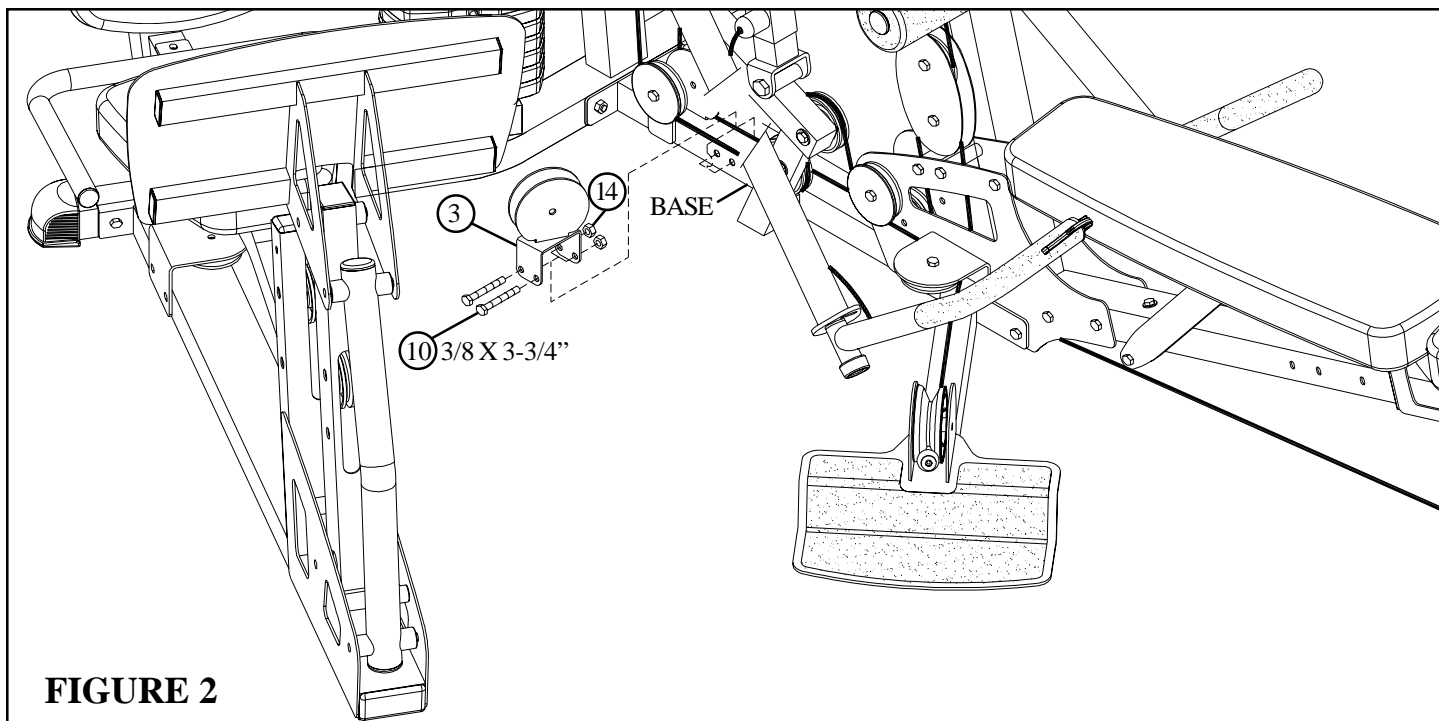

FIGURE 2
- Install the PULLEY HOUSING (3) to the BASE using two 3/8 X 3-3/4" BOLTS (10) and two 3/8" LOCK NUTS (14) as shown in FIGURE 2